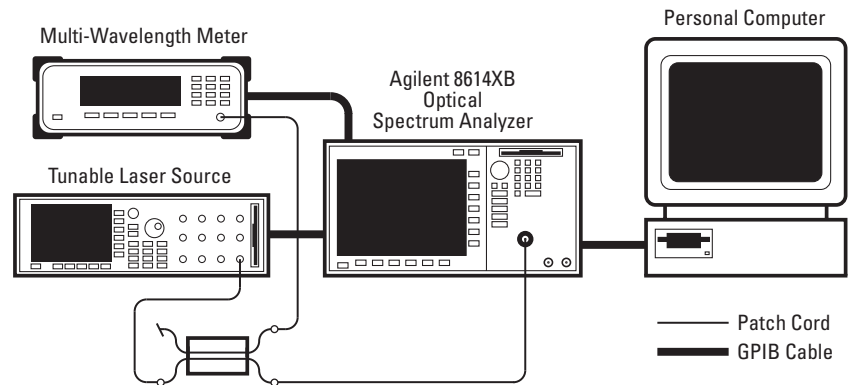

Figure 1. Test setup of the OSA, PC, tunable laser source, multi-wavelength meter and cables
2. Connect the equipment as in Figure 1. This example uses an Agilent 86120C multi-wavelength meter and an Agilent 8164A/81640A tunable laser source.